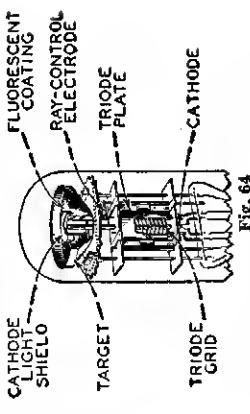

Fig. 64
Electron-ray tubes are designed to indicate visually by means of a fluorescent target the effects of a change in controlling voltage. One application of them is as tuning indicators in radio receivers. Types such as the 6U5, 6E5, and the 6AB5/6N5 contain two main parts: (1) a triode which operates as a dc amplifier and (2) an electron-ray indicator which is located in the hull as shown in Fig. 64. The target is operated at a positive voltage and, therefore, attracts electrons from the cathode. When the electrons strike the target they produce a glow on the fluorescent coating of the target. Under these conditions,